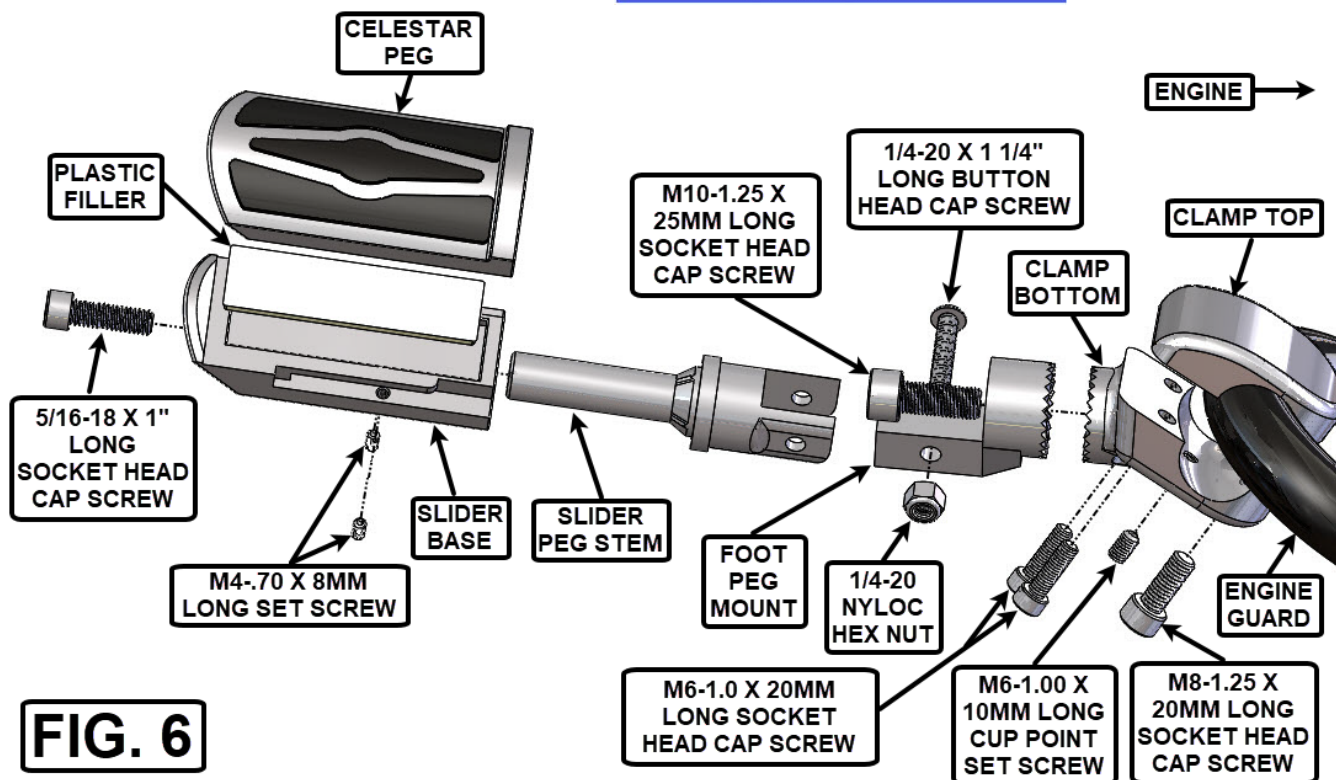

FIG. 6
9. PLACE ONE OF THE CLAMP TOPS ON THE ENGINE GUARD AS SHOWN IN FIG. 6.
11. REFERENCE FIG. 6 TO INSTALL THE CLAMP BOTTOM AND THE LEFT HIGHWAY PEG. (DO NOT TIGHTEN. CLAMP CAN MOVE FORWARD OR BACK SLIGHTLY TO ADJUST POSITION/ANGLE OF THE BOARD.) ONCE IT IS IN THE DESIRED POSITION, TIGHTEN ALL BOLTS, AND THE SET SCREW LAST.